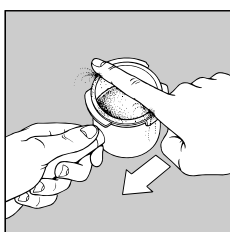

fig. 5
- 6 Remove any excess coffee from the filter rim (fig. 5).